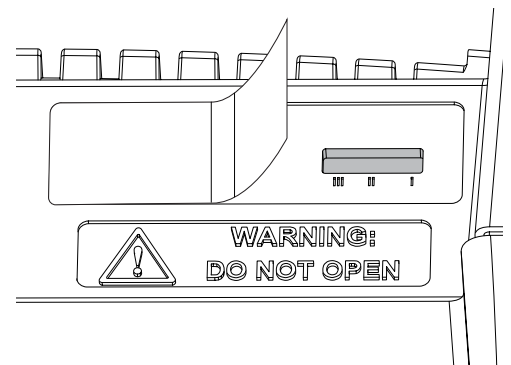

Figure 8. Attach the replacement label in the designated groove.
11. Use protective gloves to preserve the adhesive on the new and unused replacement label. Attach the new and unused replacement label in the designated groove shown in figure 8.